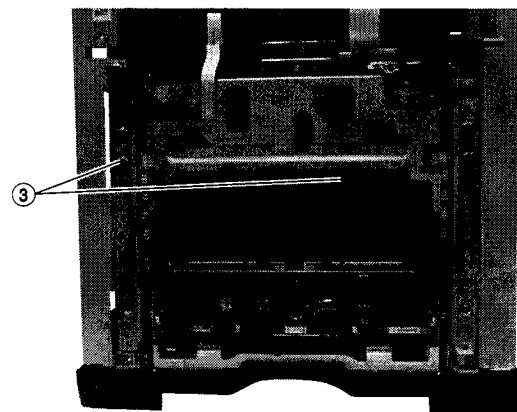

Fig. 1.2.4
- (1) Remove the top cover as shown in Fig. 1.2.4(1) to examine the DV/CPU board.